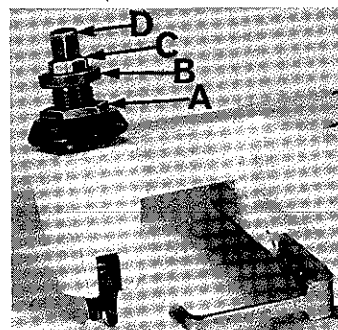

Fig. 2
Sufficient presser foot pressure to feed work uniformly should be maintained. Should it be necessary to increase or decrease amount of pressure on presser foot, loosen lock nut (A, Fig. 2) and turn adjusting screw (B). Adjusting screw has a right hand thread so tightening increases pressure, loosening decreases pressure. When pressure adjusting screw (B) has been properly set, tighten lock nut (A). With presser foot resting on throat plate, position locking nut (C) so that its under surface is approximately 1/32 inch to 1/16 inch from the top surface of adjusting screw (B). Set cap (D) against locking nut (C).